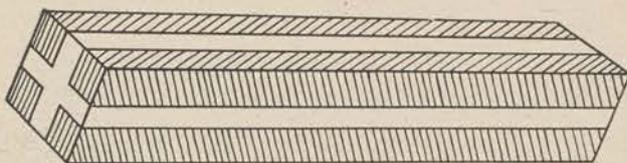

Figure 59.
b. The chain is whittled from a piece of white pine or bass wood about  $1\frac{1}{2}$  inches square and 11 inches long. Divide each side into three equal parts by drawing parallel lines and cross hatch the outer sections (fig. 59). Cut away the cross-hatched areas until you have a long stick of wood in the